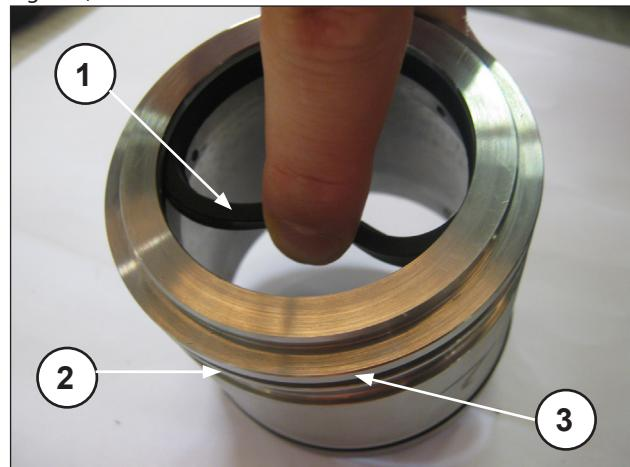

Fig. 165
Insert the low pressure seal in the packing support (pos. ①, Fig. 165) paying attention to the mounting direction which requires that the sealing lip be set forward (towards the head), the O-ring and back-up ring with the O-ring (pos. ② and ③, Fig. 165).